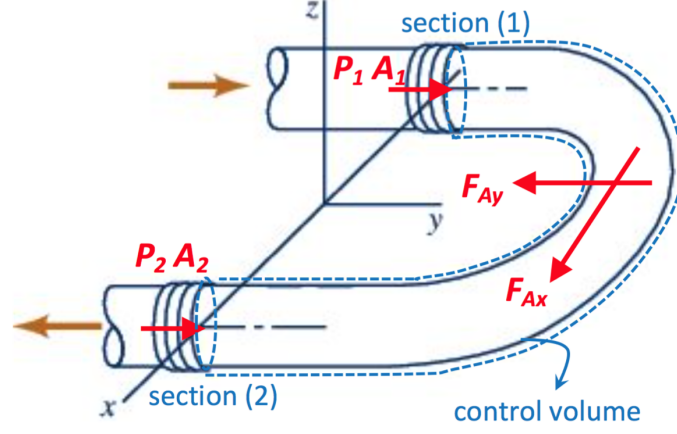

Figure 5: See problem 2.
*Forces:* The horizontal forces acting on the contents of the control volume in the  $x$  and  $y$  directions are shown in Figure 5. Note that  $P_1$  and  $P_2$  refer to gauge pressures at the inlet and outlet and not to the absolute pressures given. Atmospheric pressure acts from all sides on the control surface so that the forces cancel. Thus,  $P_1 = P_{in} - P_{atm}$  and  $P_2 = P_{out} - P_{atm}$ .